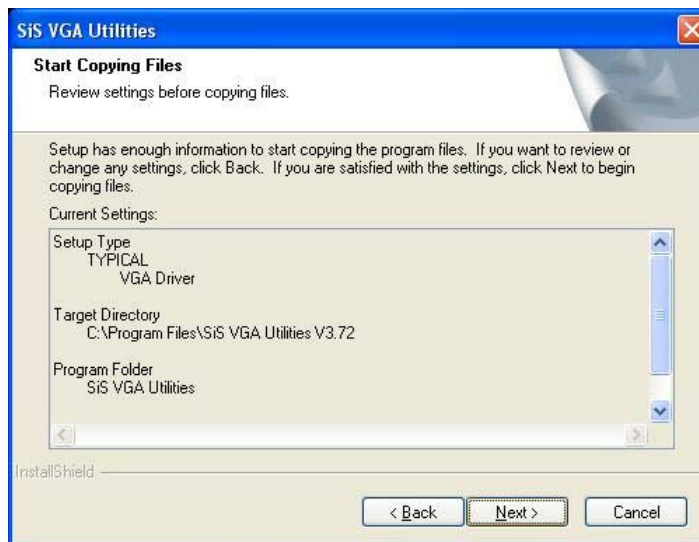

Figure 6-16: Review Settings
- Step 5:** Before the files are copied, review the selected settings (**Figure 6-16**) and then click on the **NEXT** button.